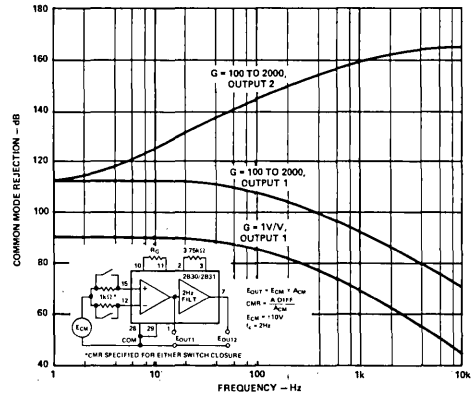

Figure 12. Common Mode Rejection vs. Frequency and Gain
**Common Mode Rejection:** CMR is rated at  $\pm 10V$  CMV and  $1k\Omega$  source imbalance. The CMR improves with increasing gain. As a function of frequency, the CMR performance is enhanced by the incorporation of low pass filtering, adding to the  $90dB$  minimum rejection ratio of the instrumentation amplifier. The effective CMR at  $60Hz$  at the output of the filter ( $f_c = 2Hz$ ) is  $140dB$  min. Figure 12 illustrates a typical CMR vs. Frequency and Gain.